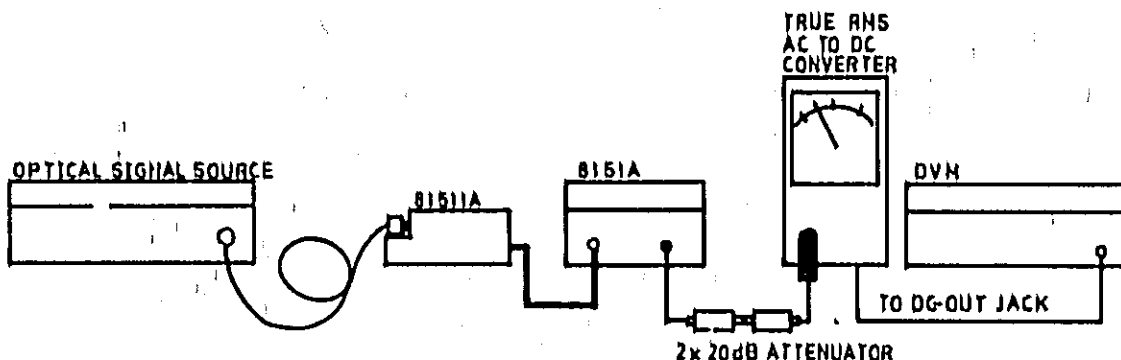

Figure 4-14. Test setup for Transducer flatness tests to 9.99 MHz
1. Connect the equipment as shown in Figure 4-14.